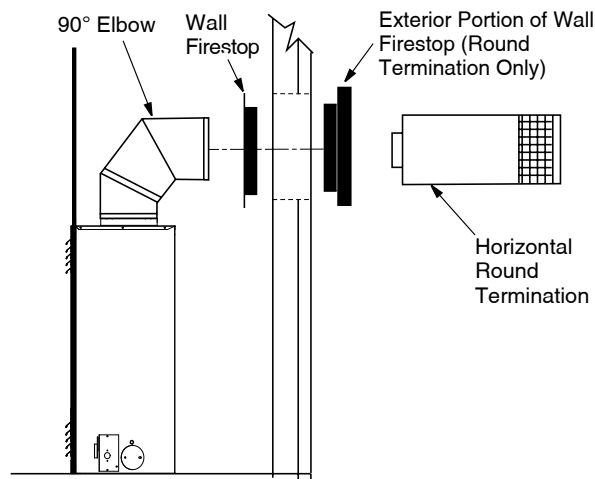

Figure 18 - Horizontal Termination Configuration for Round Termination (Model (V)CD36T)
**IMPORTANT:** Horizontal square terminations require only inner portion of wall firestop. Horizontal installation using round termination require exterior portion of wall firestop (see **Figure 18**, page 11).